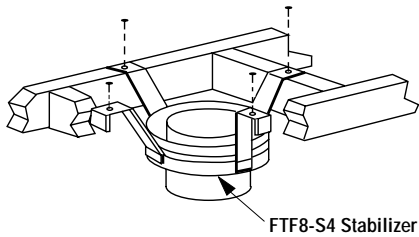

Figure 28
Install the Model FTF8-S4 stabilizer by fitting inner section down into respective section of proceeding flue pipe and locking outer stabilizer section into place over the outer chimney pipe. Position for proper clearance through framed opening and nail straps securely (under tension in "shear") into place on framing. Use 8d nails. Attach successive lengths of chimney pipe directly to stabilizer using same techniques as described in Step 4 (see Figure 28).
Step 1. Use Offset Chart to determine amount of horizontal offset (A) and height (B) for various chimney section assemblies.
Step 3. Use Elevation Chart as job estimator only. Add necessary firestop spacers and stabilizers as required. Firestop spacers must be used as shown in *Figures 22 and 23* and stabilizers as shown in *Figure 28*.